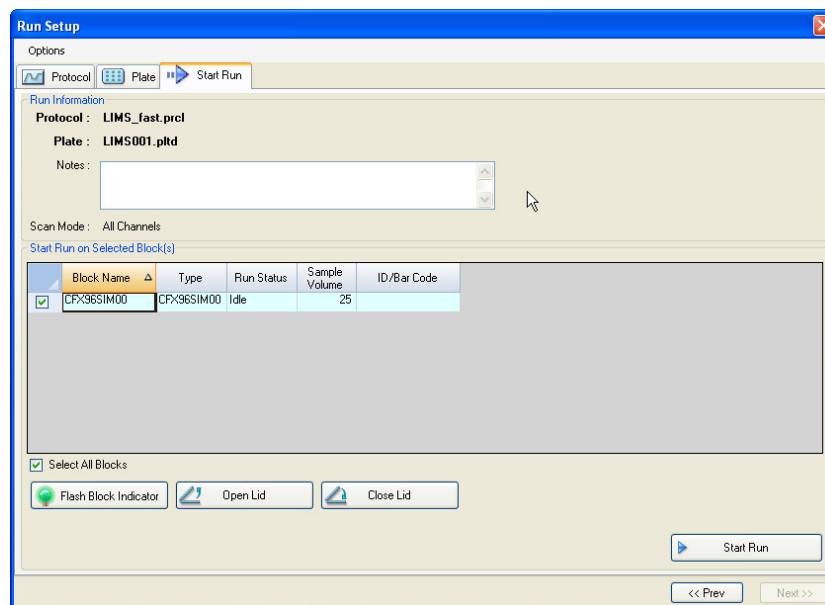

Figure 104. Run Setup window with a LIMS run ready to start.
- To start the run for a selected LIMS file, select an instrument and click **Start Run** (Figure 104). The contents of the LIMS file and linked protocol file are used to complete the protocol and plate tabs.